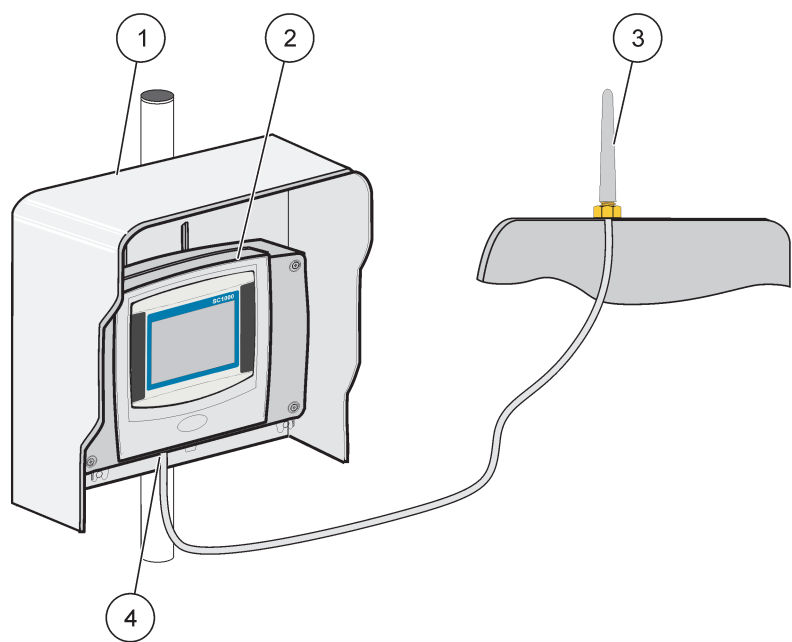

Figure 35 Connect the external GSM antenna
- 4. Attach the antenna cable to the GSM antenna connection at the display module (Figure 7). Use the supplied adapter to connect the antenna connector and the GSM antenna connection (Figure 35).